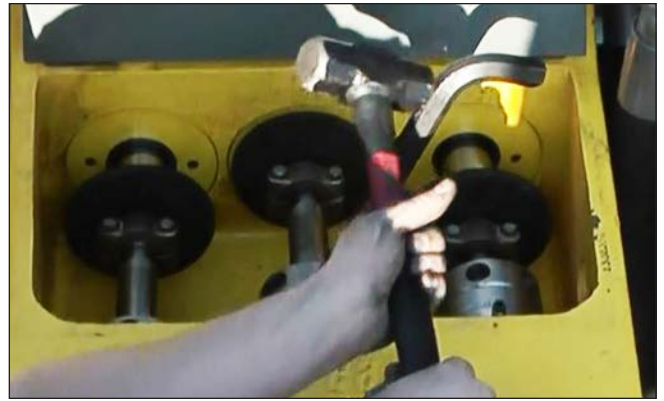

Figure 86: Loosening the Gland Nut.
6. Insert the rounded end of the pump wrench (Figure 86) into one of the holes in the gland nut and tap the top of the wrench sharply with a heavy hammer to loosen. When loose, unscrew the gland nut from the stuffing box by hand.